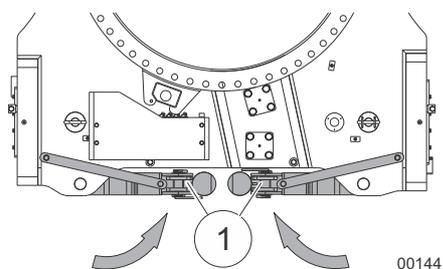

Fig. 154 Folding in the outrigger cylinders
| 12 | Fold in the outrigger cylinders (1) in Fig. 154 on the front and rear of the undercarriage and lock them in place. |